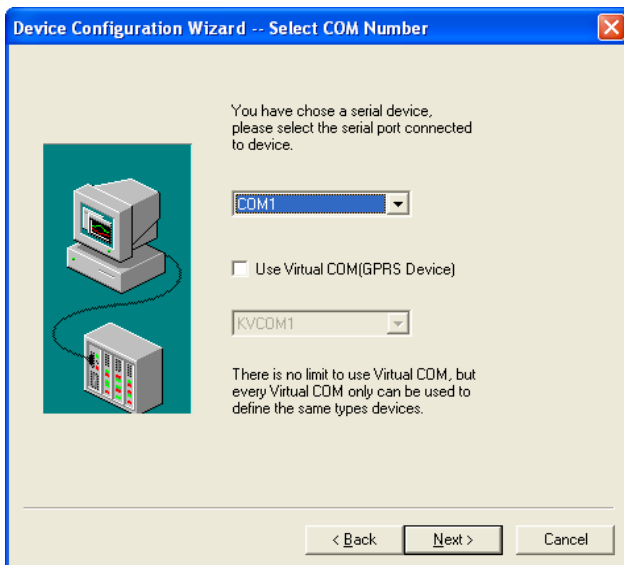

Fig. 14 Device Configuration Wizard-3
3. Choose "COM1" or other COM ports as a channel, but it won't use the true COM port unless the device is connected with PC via serial ports. Click "Next" to continue. (See Fig. 14);